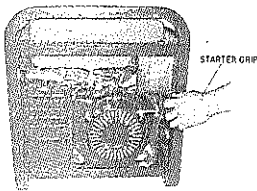

Figure 6- Pulling the start cord
7. Pull on the recoil starter handle slowly until a slight resistance is felt (see figure 6). Then pull quickly to start the engine. Return cord gently into the machine. Never allow the cord to snap back.